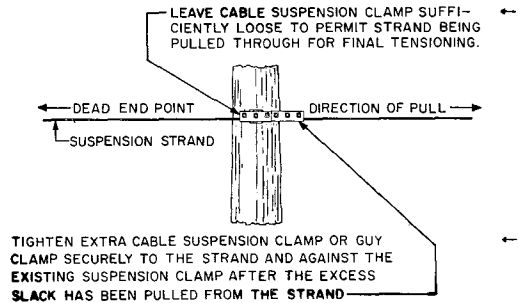

Fig. 11 — Holding Tension for Removing Slack Under Light Unbalanced Load
4.12 Occasionally, because of corners in the line or tree conditions, or where using large reels of strand, it is advisable to pull slack out of the strand at intermediate points preparatory to the final tensioning of the strand. At these points, the method illustrated in Fig. 11 may be found convenient for temporarily holding the strand. This method shall only be used as a